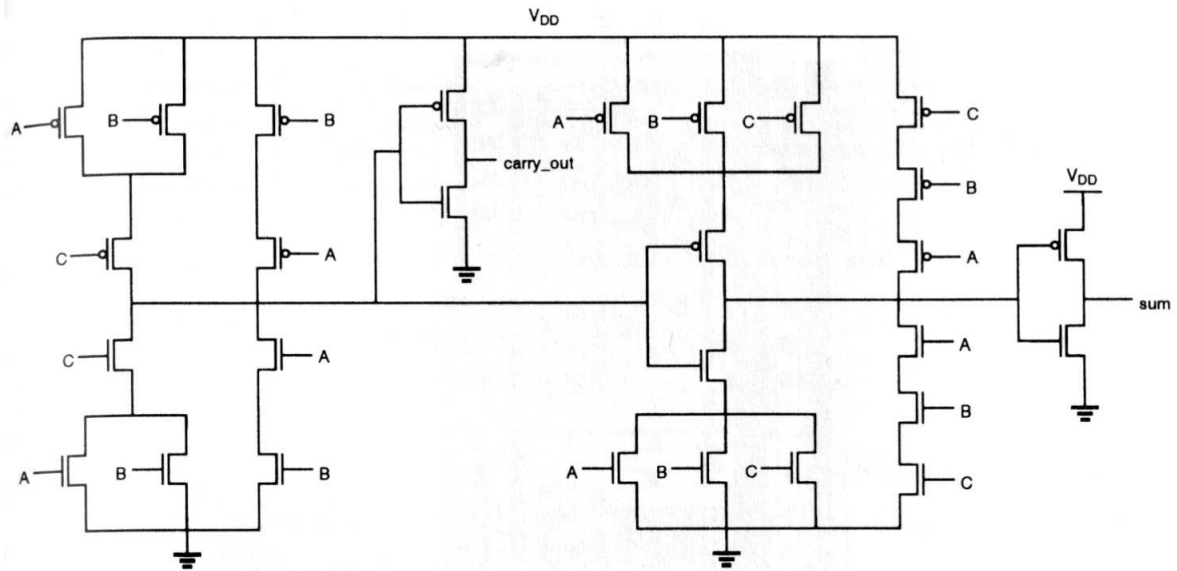

Figure 3: Static full adder
- (B) the design presented in Fig. 3